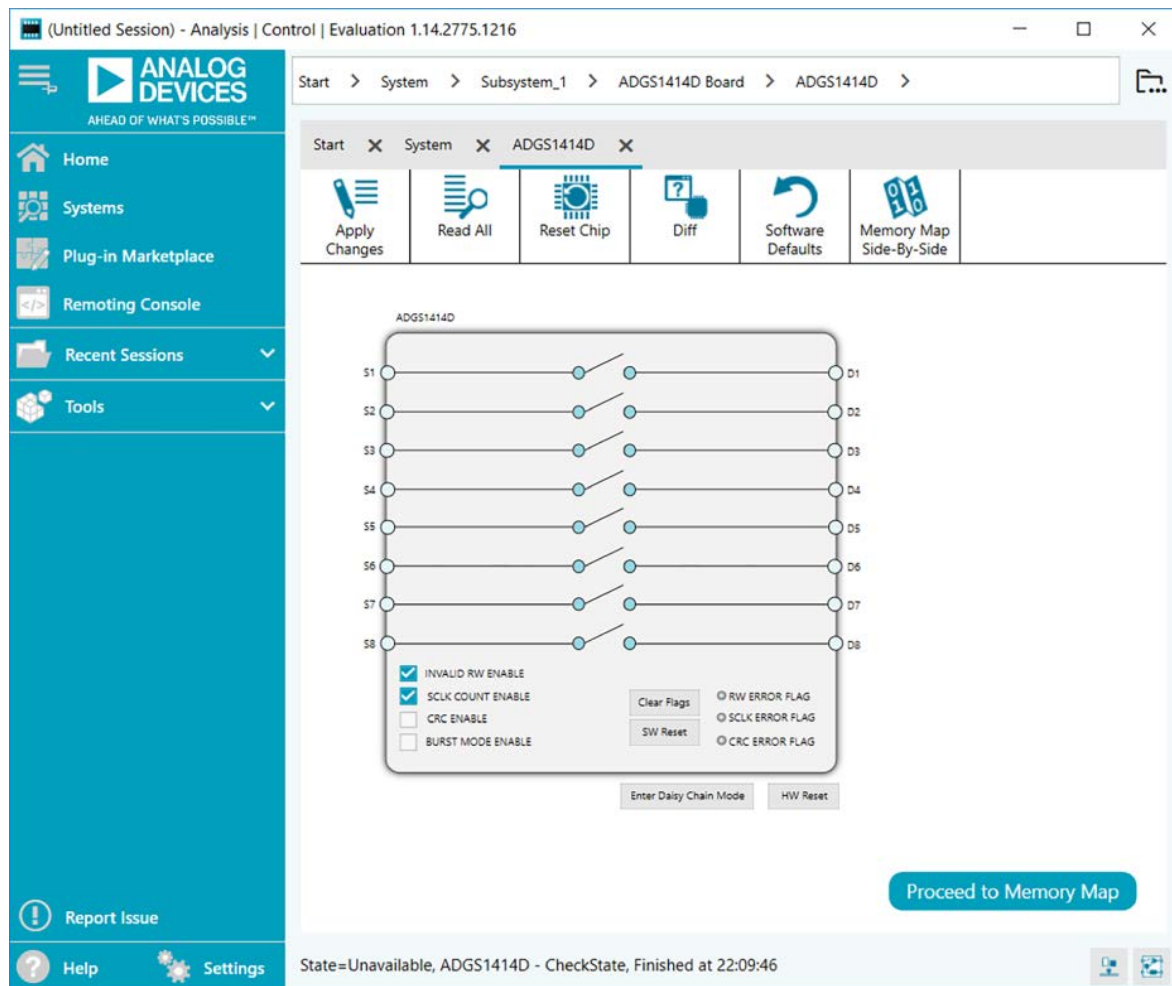

Figure 2. Chip View for the ADGS1414D
5. Double click the **ADGS1414D Board** evaluation board plugin to open the **ADGS1414D** chip view, as shown in Figure 2.